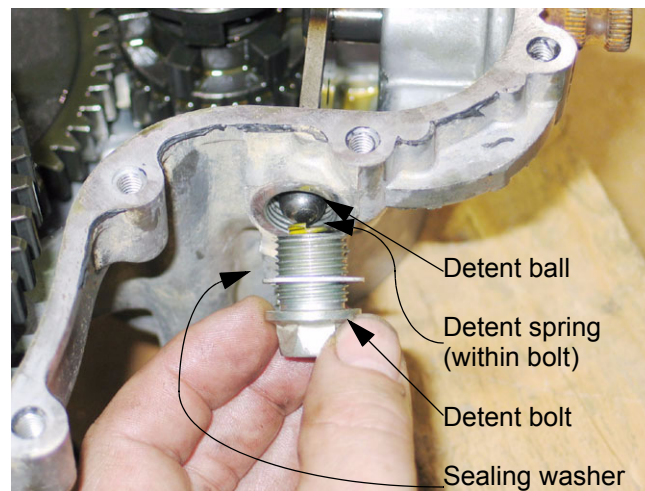

Figure 9.38
- 9.38. Remove the detent bolt using a 14 mm wrench. See Figure 9.38.